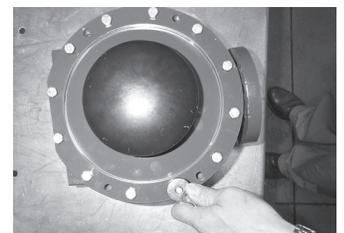

figure 12
5. Using a  $\frac{9}{16}$ " socket, remove the (12)  $\frac{3}{8}$ " hex head bolts (item 13) that connect the clamp ring to the casing (item 1). See figure 12.
6. Remove the clamp ring from the back of the barrier assembly (item 6).